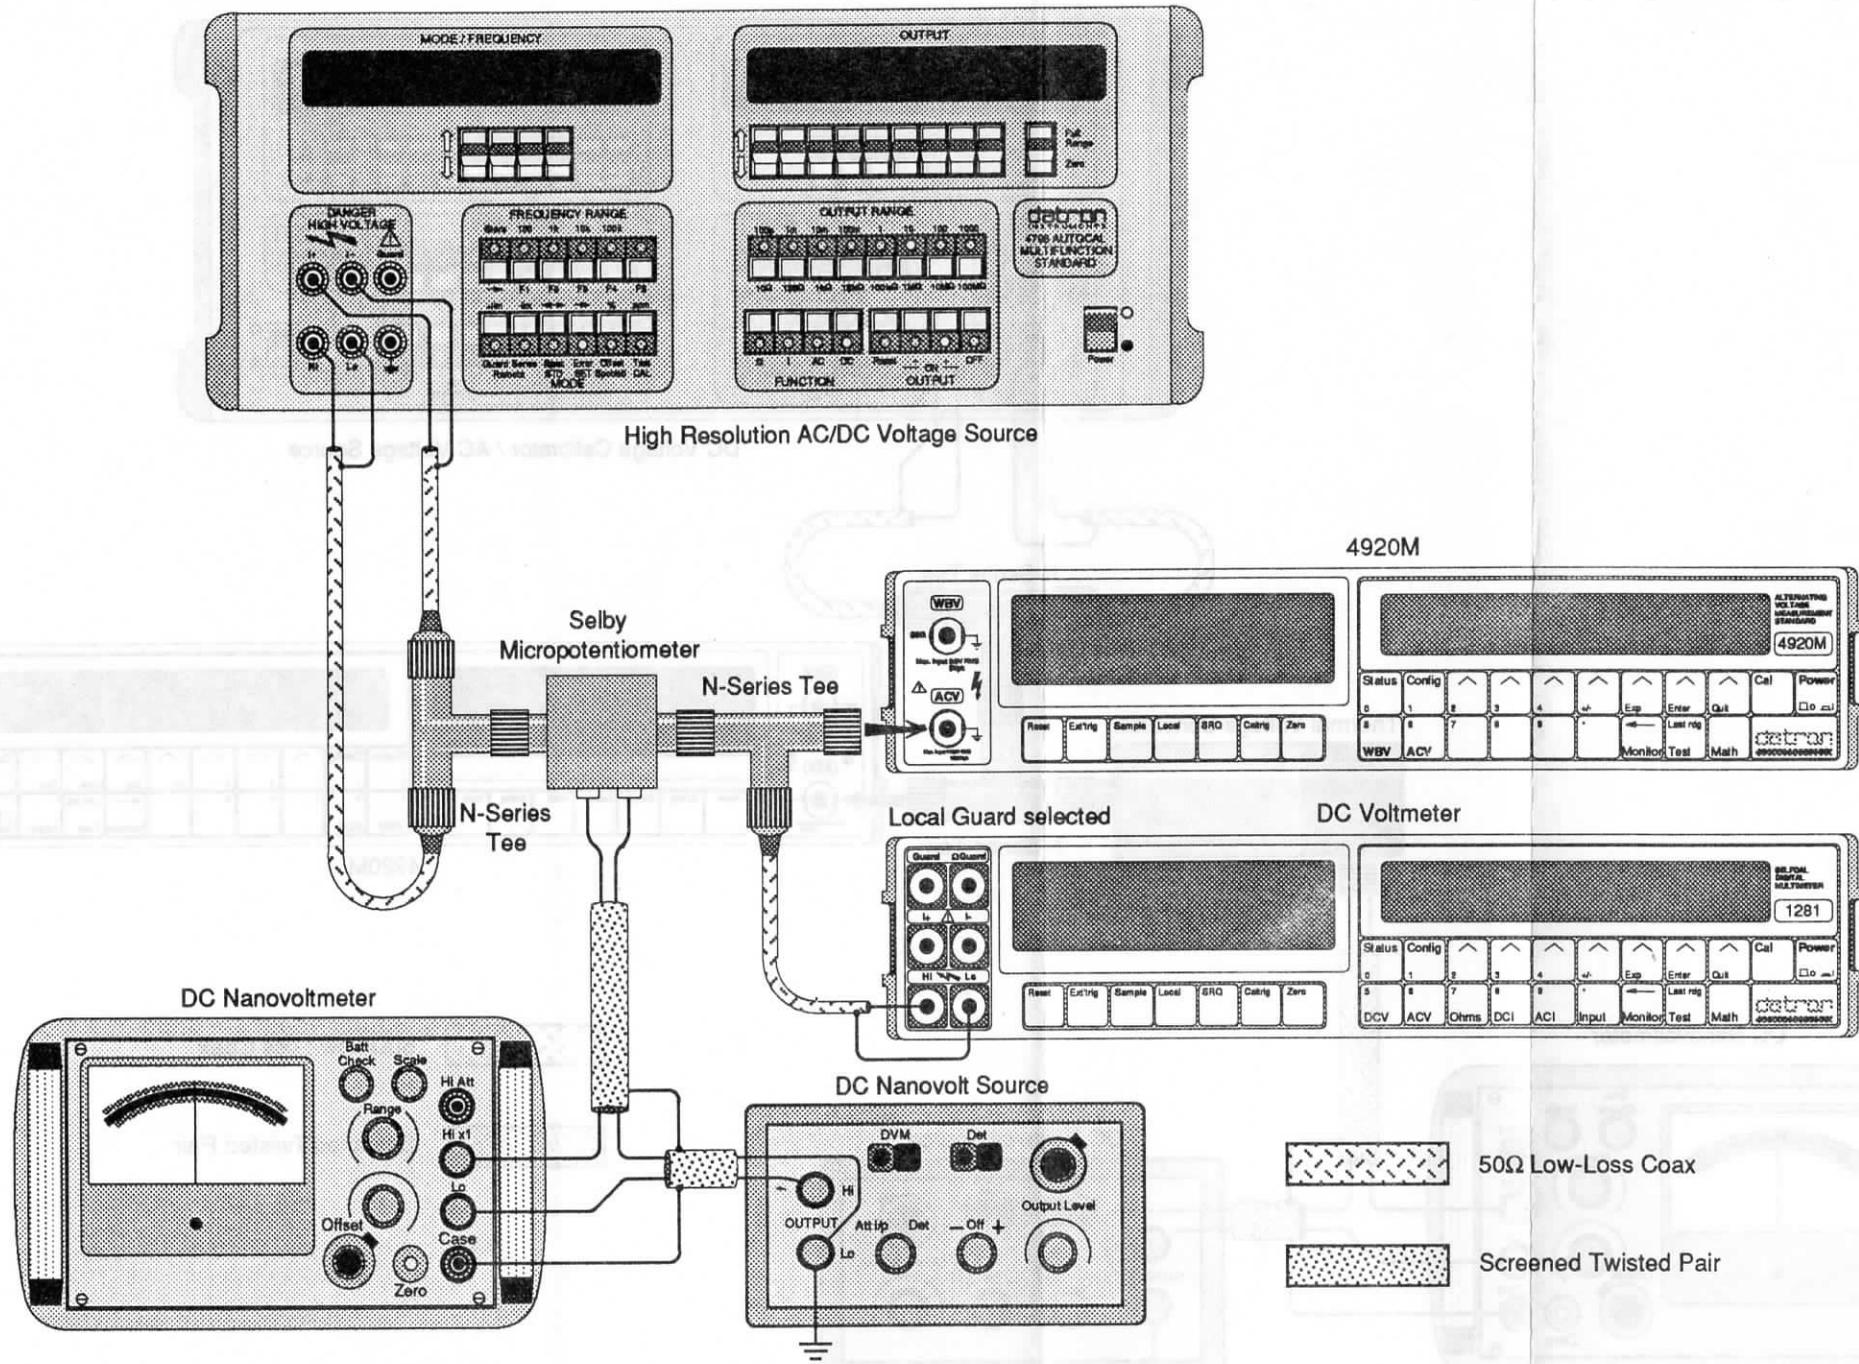

FIG. 8.1 ACV 100mV CALIBRATION - INTERCONNECTIONS
2. Connect the high resolution DC voltage source (DC calibrator) into the calibration setup as shown in Figure 8.1 and select the 4920M's ACV 0.3V range.